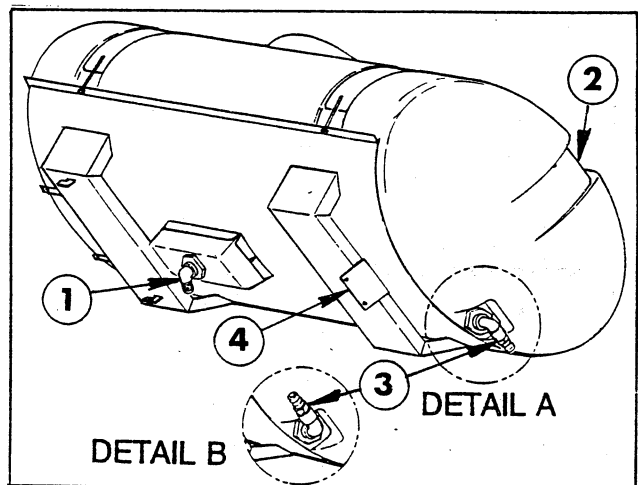

FIG. 2
3. Apply thread sealer and install the 90° barbed elbow into the bottom of the Tank. See FIG. 2. **IMPORTANT!** Position the barbed elbow as shown, so that it will angle toward the High Pressure Pump, after the Tank is installed on the Skid Frame.
4. Apply thread sealer and assemble the 90° St. elbow to the male Quick Coupler. Install the elbow into the fitting at the spill-way end of the Tank, so that it angles toward the outside of the Tank as shown in FIG. 2.